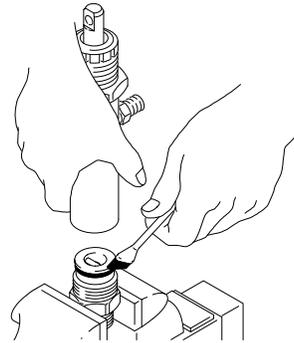

Fig. 34
- Grease the intake valve o-ring with non-silicon grease. Screw the pump cylinder into the intake valve. Torque to 70 ft-lb (95 N.m). See Fig. 34.